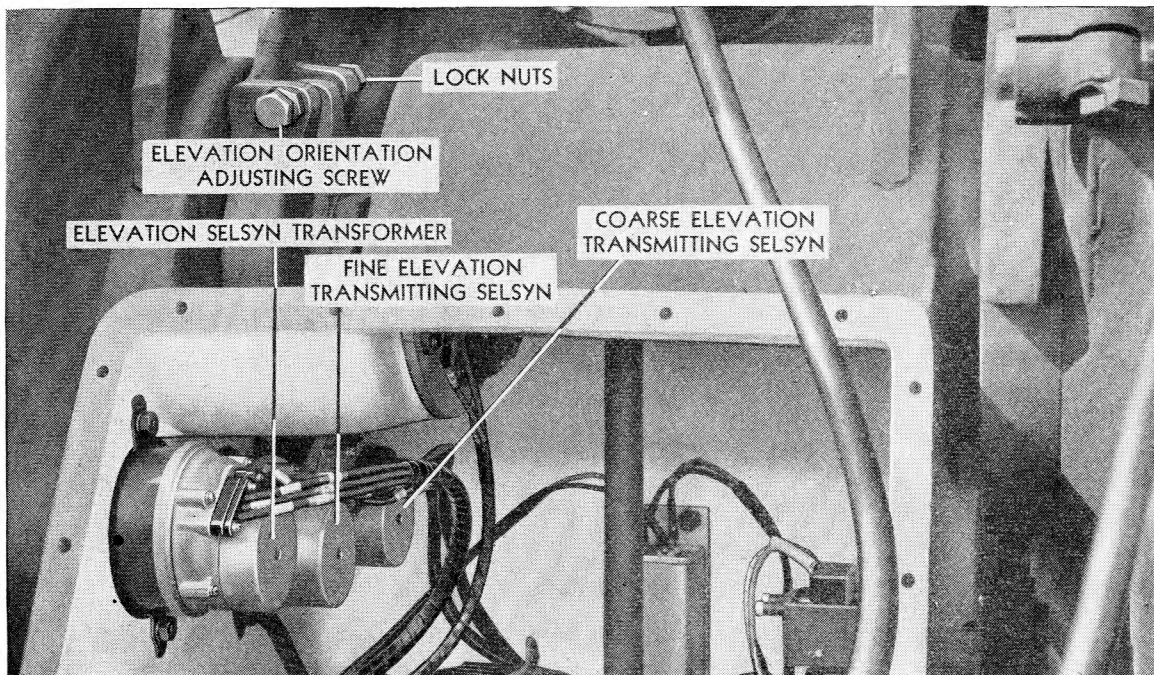

Fig. 23—Elevation selsyns and adjusting screws
82. (a) Slacken the locking nut on the elevation selsyn drive shaft and the lock nuts on the elevation orientation adjusting screws (see Fig. 23).